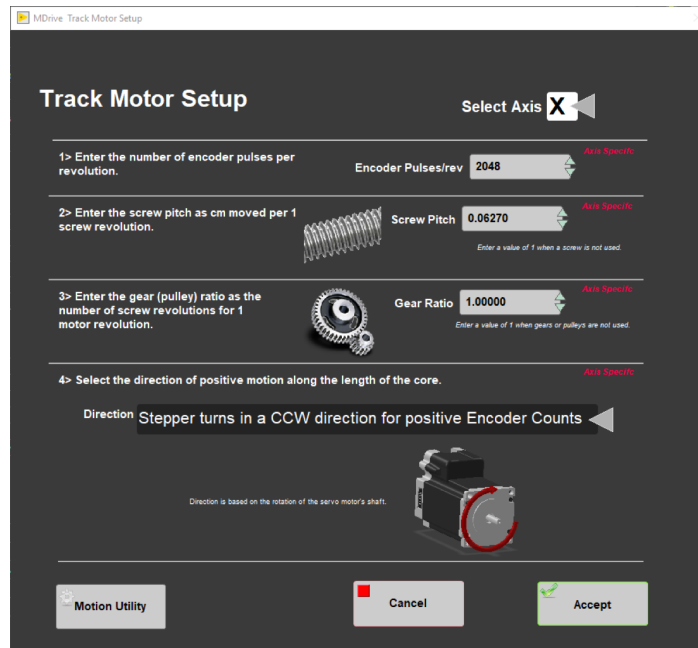

Figure 62- SRM Motor and Track Options Setup Window
- Make sure to use the values shown for the SRM (Figure 62).